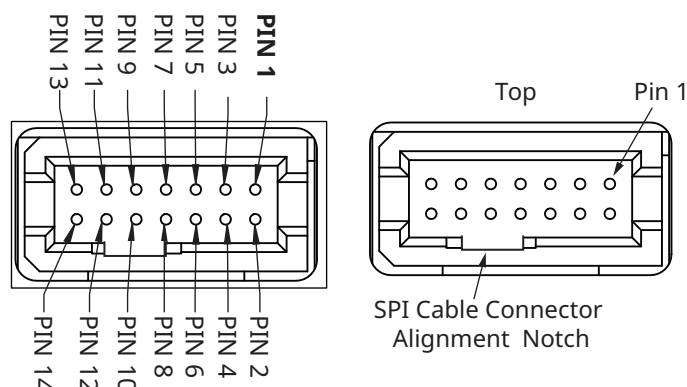

Figure 2-2. SPI Connector Pin
The CONTROL/SPI communication interface is shown in Figure 2-2.
6. Connect Control/SPI cable to EcoSyn SPI/Controller connector. Align the connectors to assure proper fit when connecting. See the alignment notch shown in Figure 2-2 on page 2-2